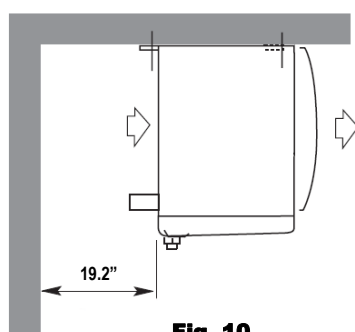

Fig. 10
- Allow a minimum return air space behind the coil equal to the height of the unit (**Figure 10 - below**).